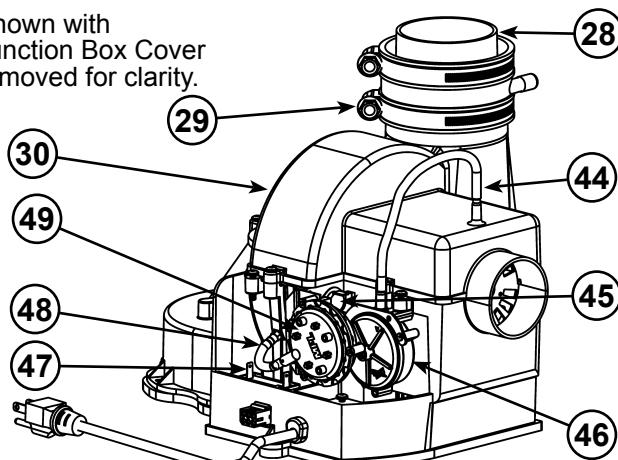

Figure 5.
| 8 T&P Valve | 25 Baffle Assembly | 44 Air Tubing (Intake) (see Figure 5) |
| 9 * Discharge Pipe | 26 Hot-Water Outlet Nipple/Anode | 45 Blower High Limit Switch (see Figure 5) |
| 10 **Combo Heating System Return Inlet (Optional) | 27 *Inlet Water Shut-off Valve | 46 Intake Air Pressure Switch (NC) (inside box) (see Figure 5) |
| 11 Gas Control Valve/Thermostat (Honeywell) | 28 ****Rubber Coupling (see Figure 5) | 47 Capacitor (see Figure 5) |
| 12 Gas Valve Electronic Control Module And Cover (Honeywell) | 29 Gear Clamp (see Figure 5) | 48 Air Tubing (Exhaust) (see Figure 5) |
| 13 Drain Valve | 30 ***Blower with Power Cord (see Figure 5) | 49 Exhaust Air Pressure Switch (NO) (inside box) (see Figure 5) |
This device is located on the blower (see Figure 5, item 45) and limits the maximum temperature of the blower. If the blower temperature rises above the temperature setting, the switch opens causing the heater to shut down.
The blower/heater is equipped with two air pressure switches located in the junction box (see Figure 5, item 46 and item 49). These devices are connected in series and monitor the air pressure produced by the blower. In the event that the exhaust venting becomes blocked or sufficiently restricted, the normally open (NO) air pressure switch will shut down the heater. In the event that the intake pipe becomes sufficiently blocked or restricted, the normally closed (NC) air pressure switch will shut down the heater.